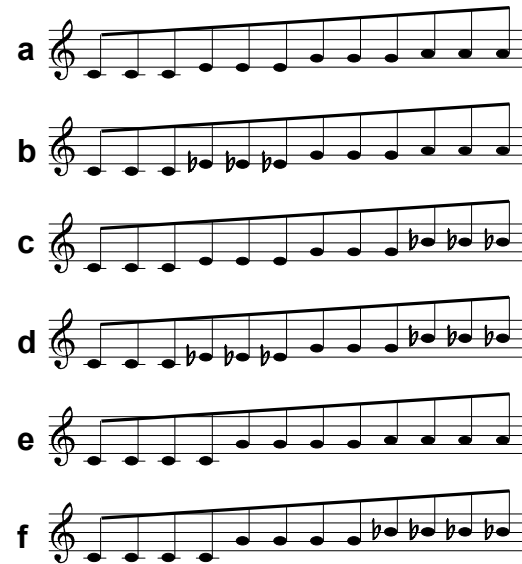

fig. 5: Addition of a sixth (a, b, e), and seventh (c,d,f)
③ Switch
The 3-position switch ③ enables the addition of a sixth (pos. +6) or a (minor) seventh (pos. +7) if switch ② is in position "Chord" (see fig 5 a, b, c, d) or "Quint" (see fig. 5 e, f). In the middle position "-" neither is added.